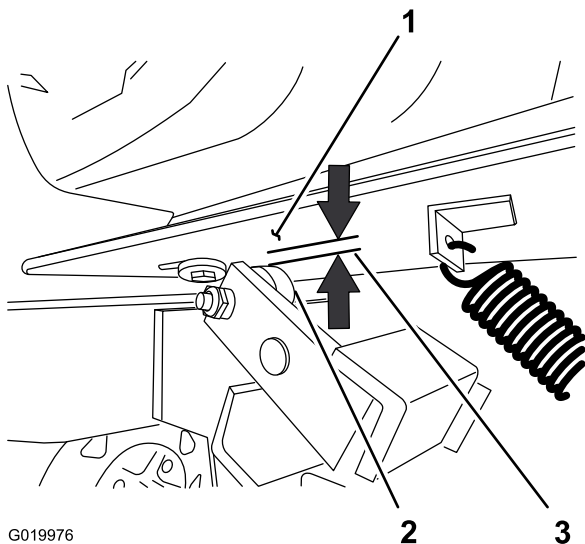

Figure 35
2. Measure the air gap between the motor deck and the roller on the clutch (Figure 35).